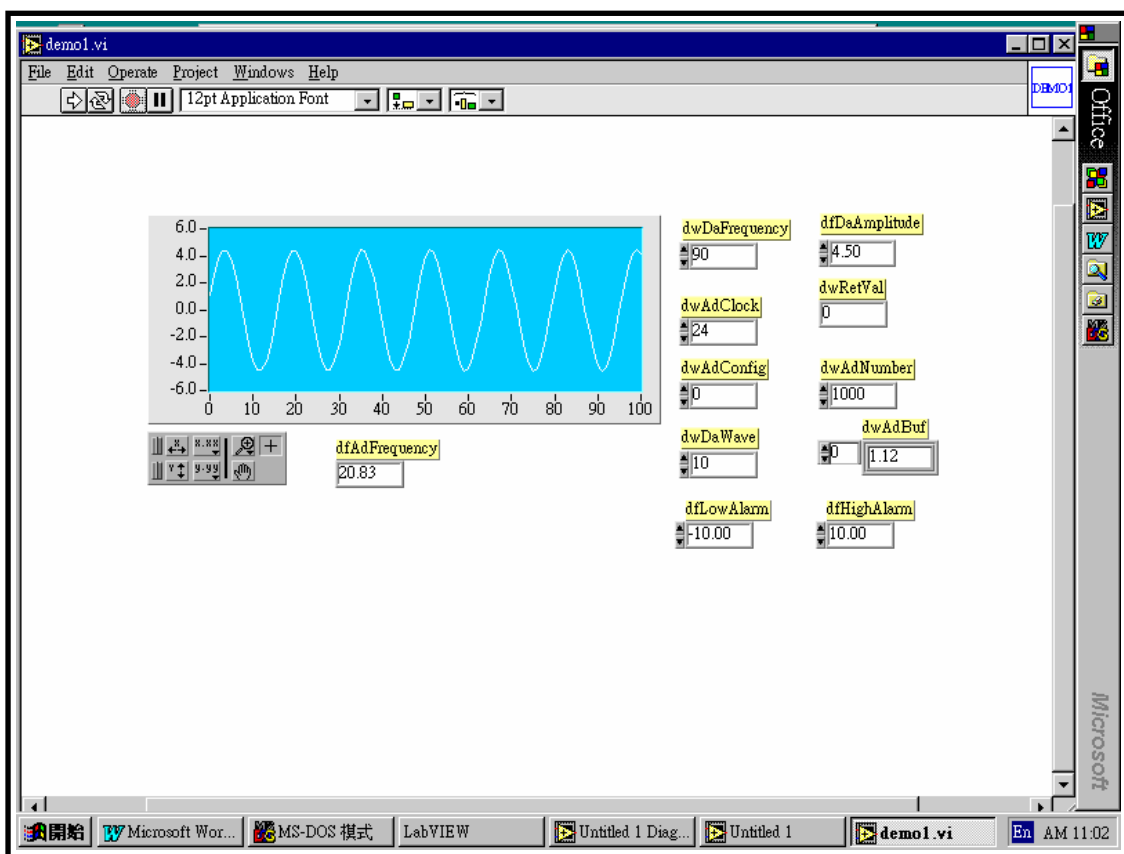
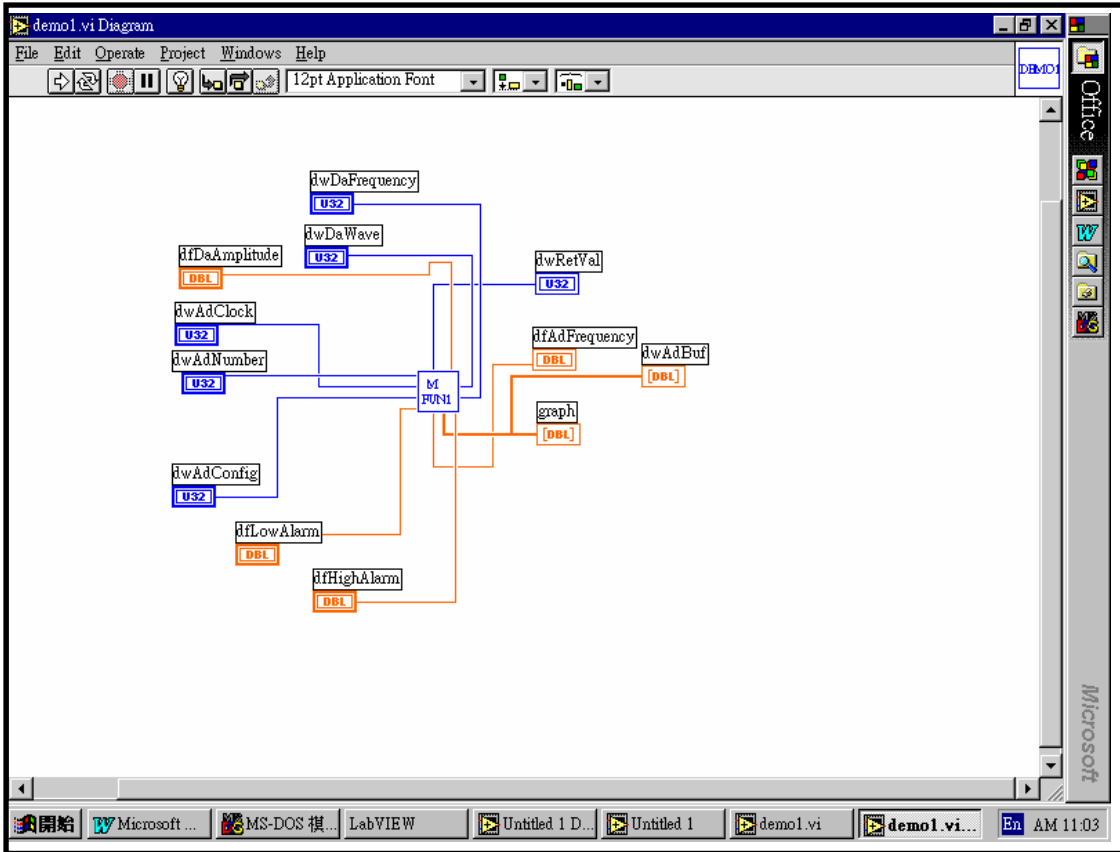

Fig 8. The output of DEMO1.VI. (call M_FUN_1)
Fig 9. The connection diagram for DEMO1.VI (call MFUN1.VI)
2. The demo1.VI will call MFUN1.VI to perform M_Functions. The M_Functions can send out an arbitrary waveform to the D/A output port and perform A/D input at the same time. If you connect D/A channel_0 to A/D channel_0, the M_Functions can measure the D/A output back. The output response is shown in Fig 8 and the connecting diagram of demo1.VI is given in Fig. 9.